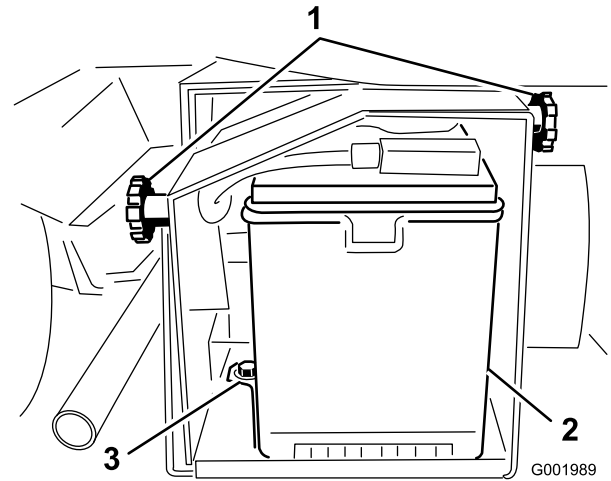

Figure 56
2. Loosen the knobs on the sides of the battery box and remove the battery cover (Figure 56).
5. Remove the battery retainer and fasteners (Figure 56).
2. Install the battery retainer and secure it with the fasteners you removed previously (Figure 56).
4. Install the battery cover and secure it with the 2 knobs (Figure 56).
1. Loosen the knobs on the sides of the battery box and remove the battery cover (Figure 56).